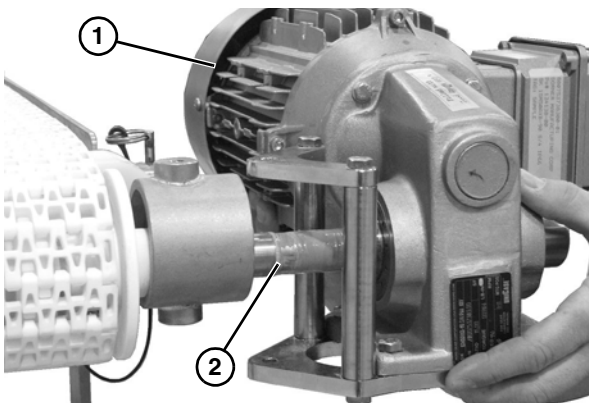

Figure 67
4. Slide the gearmotor (Figure 67, item 1) off of the drive spindle (Figure 67, item 2).